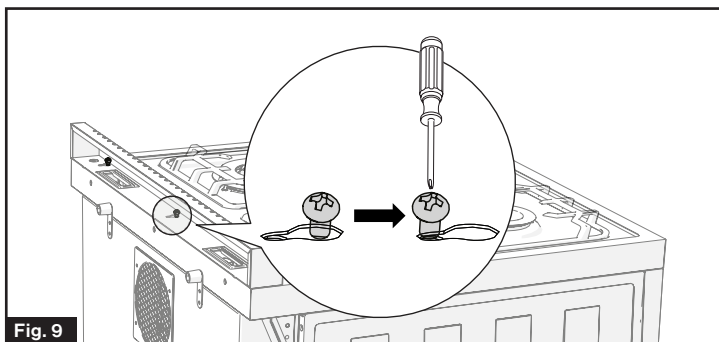

Fig. 9
2. Attach the backsplash into the pre-installed screws at the bottom and pull inward until stopped. Turn the backsplash to the front then tighten these three screws. (Fig. 9)